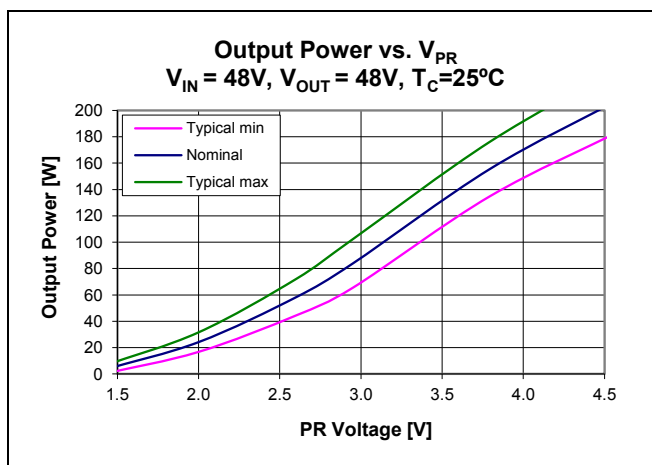

Figure 21 – Output Power vs.  $V_{PR}$ ;  $V_{IN} = 48V$ ,  $V_{OUT} = 48V$ ,  $T_{CASE} = 25°C$
**Control node (PR)** is the input to the control node which determines the powertrain timing and ultimately the module output power (Figure 21). An internal 0.5mA current sink is always active. The bi-directional buffer between PR and the control node has two states. In normal operation, PR will be above the 0.79V switching threshold, and will drive the control node through the buffer. An internal 7.4V clamp determines the maximum output power that can be requested of the modulator.